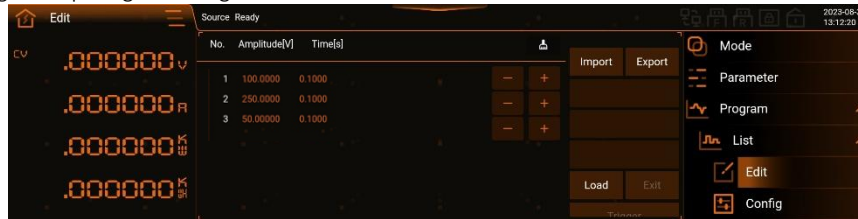
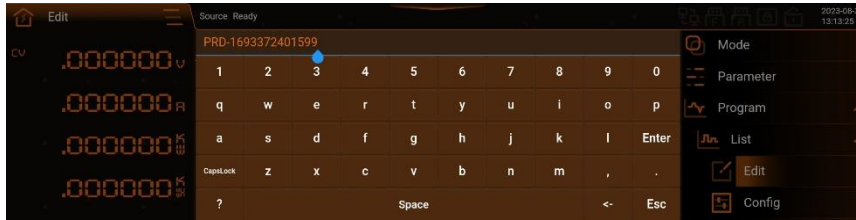

Figure 162 List Programming Example First Figure
Figure 167 Waveform Export Interface Diagram
See List programming example figure in Figure 162.
- 1) Click Figure 162 the 'Export' at the top right corner to enter the Figure 167 interface